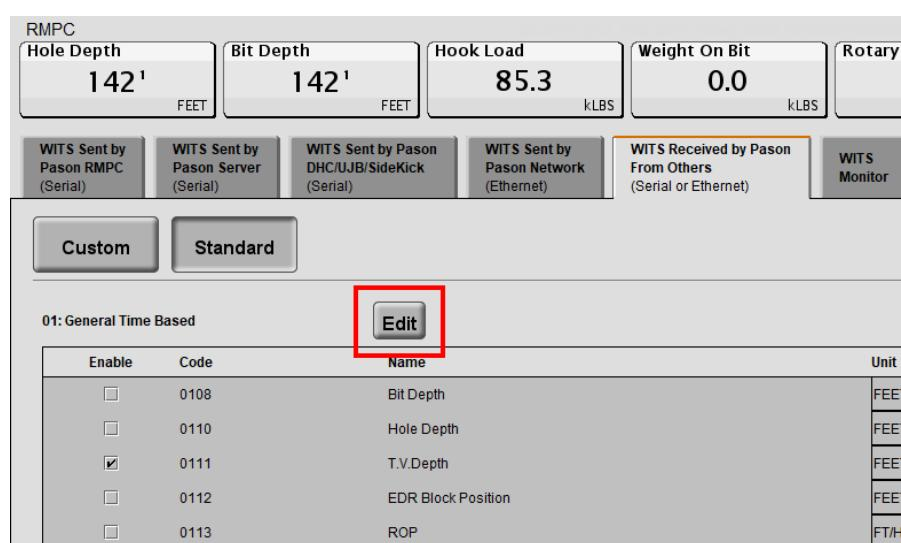

Figure 18: *WITS Received by Pason from Others* tab
- You'll find the *WITS Received by Pason from Others* tab on the WITS setup screen in the EDR (Figure 18).